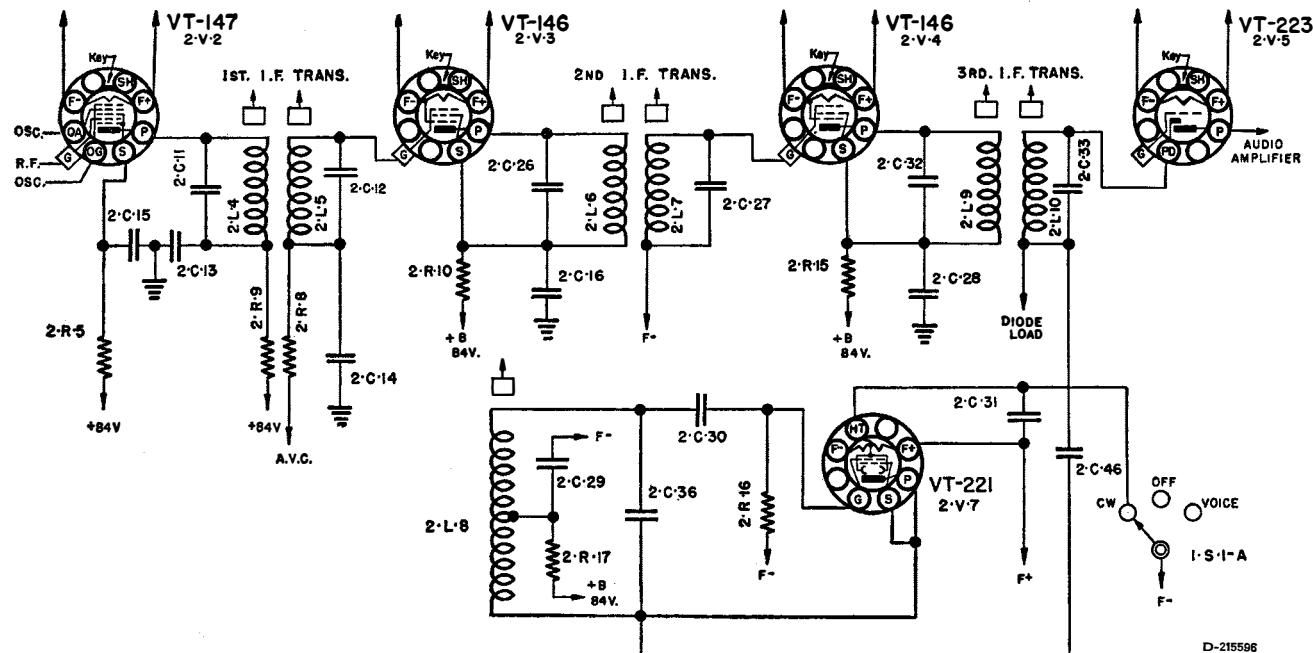

FIG. 11. INTERMEDIATE AND BEAT FREQUENCY OSCILLATOR CIRCUIT
b. Intermediate and Beat Frequency Oscillator Circuits: (FIG. 11)
- (1) The i-f amplifier consists of a two stage amplifier using two Tubes VT-146 (2-V-3 and 2-V-4), and three transformers (No. 1: 2-L-4 and 2-L-5, No. 2: 2-L-6 and 2-L-7, No. 3: 2-L-9 and 2-L-10) with permeability tuned primaries and secondaries. Each transformer together with the $270 \mu\text{f}$ capacitors across primary and secondary, is mounted in an aluminum shield.
- (2) The beat frequency oscillator uses a separate Tube, VT-221 (2-V-7), and oscillates at a fixed frequency of 455 kc.